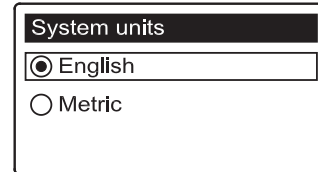

FIG. 17
- SYSTEM UNITS** If the desired system already has a black dot next to it (See Figure 17), go to Step 18. Otherwise, press the DOWN (▼) or UP (▲) buttons to scroll to the desired system, then press the SELECT (O) button to choose it.
- Press the SELECT (O) button.